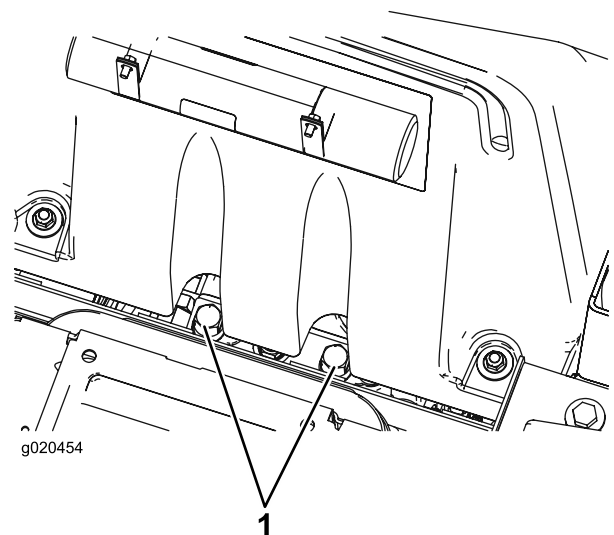

Figure 57
1. Raise the seat and locate the bypass valves, which are located below the front of the fuel tank (Figure 57).